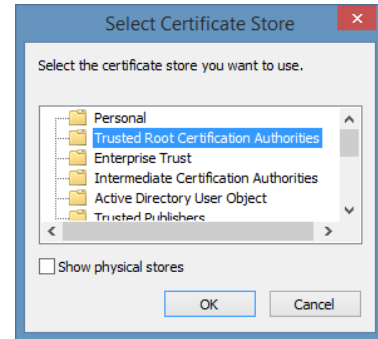

Figure 81: select certificate store
9. **Browse to TrustedRootCertificationAuthorities** and click **OK**(see Figure 81).